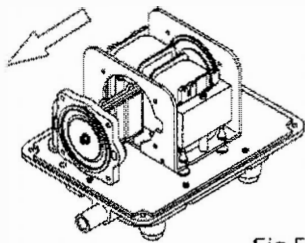
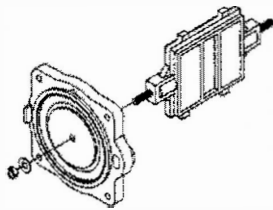

Fig.5
Fig.6
④Loosen the U locknut and washer on one side of diaphragm mounting block and remove the Diaphragm mounting block (refer to fig.5) . Pull out the other side of diaphragm mounting block(do not loosen the U locknut and washer). Remove the block from Rod (refer to fig.6).